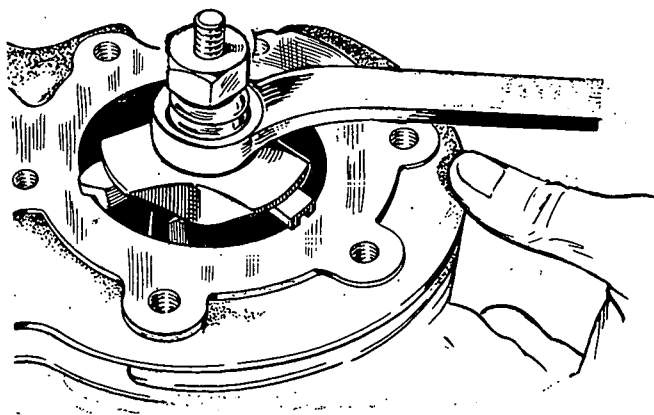

FIGURE 50. REMOVING RIDGE FROM THE CYLINDER
3. Remove the ridge from the top of both cylinders with a ridge reamer before removing the piston (Figure 50).